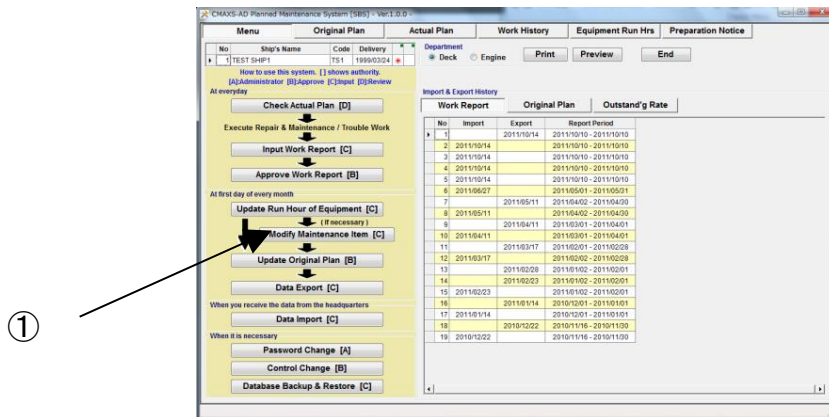

Fig.10-1 Menu Screen
(1) On the “Menu screen”(Fig.10-1), select [Modify Maintenance Item Data].